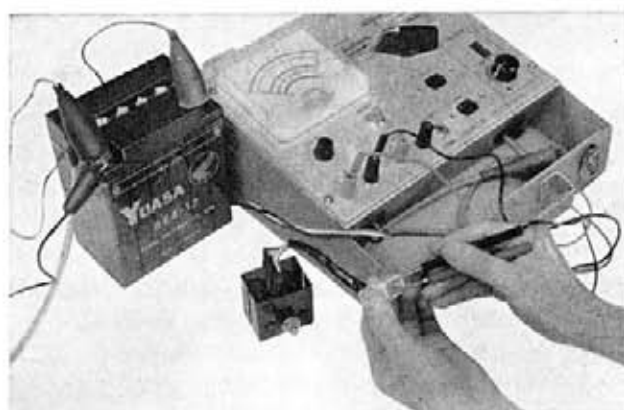

Fig. 8-18
1. The condition of the silicon rectifier is tested by disconnecting it from the generator and testing the rectifier function in both the normal and reverse directions. A continuity in only one direction indicates a good condition. Continuity in both directions or no continuity in either direction indicates a defective rectifier and should be replaced. (Fig. 8-18)